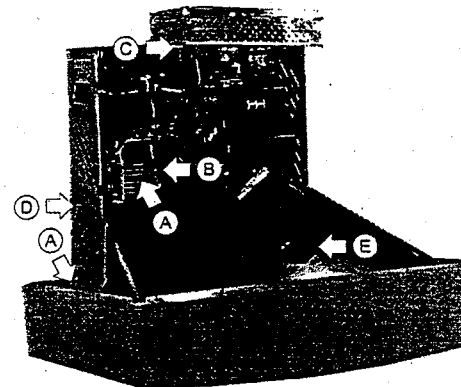

Figure 2-3 Remove the Main Board & Neck Board
4. Disconnect the two connected pins from the main board. Refer to the figure 2-3 (A).
5. Release the cord crammer from the FBT cover. Refer to the figure 2-3 (B).
6. Disconnect the ground wire from the neck shield. Refer to the figure 2-3 (C).
7. Remove the screw from the holder (L). Refer to the figure 2-3 (D).
8. Remove the anode cap from the CRT. Refer to the figure 2-3 (E).